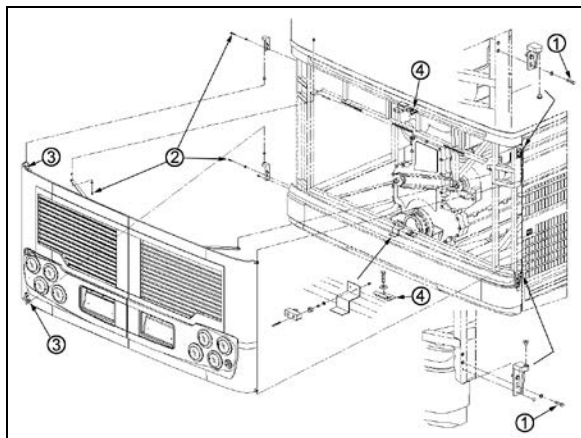

FIGURE 68: ENGINE COMPARTMENT DOORS 18633
6. Loosen the bolts, (1, 2 Fig. 68) holding the hinge to the vehicle structure to shift the door "UP or DOWN".
7. Loosening the bolts (3, Fig. 68) allows the door to be shifted "LEFT or RIGHT" and "IN or OUT".
To adjust the latch mechanism (4, Fig. 68) and the striker pin: